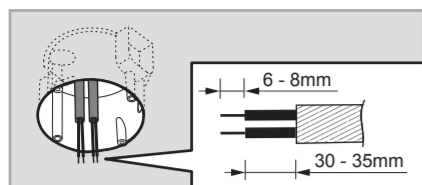

FIG.8
4.4.1.2 Pull out AC power cables from European standard junction box then strip off 6 - 8mm of cable sheathing for wiring (See FIG.8 ).